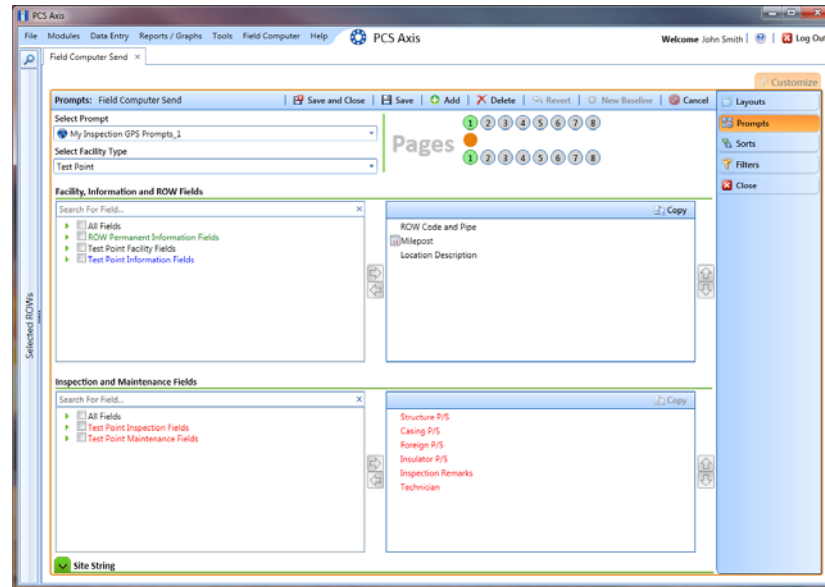

Figure 7-34. Prompts
- 9 Verify the name of the new theme displays in the **Select Prompt** field. If not, click the down arrow and select the theme in the selection list (Figure 7-34, page 318).
- 11 To add information prompts, follow these steps (Figure 7-34):
- a Click the  **Site String** and then double-click  **All Fields** in the left pane to view a list of fields available for selection (Figure 7-34, page 318).